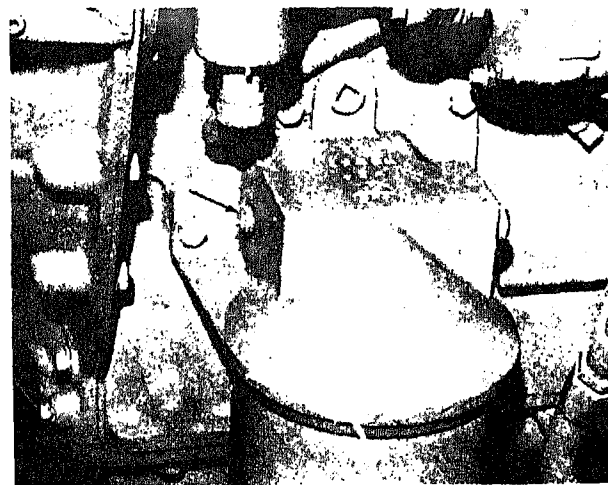

Fig. 14-2-2. Lubricating system priming point with paper element filter N214
- b. When engine with "paper element" full-flow lubricating oil filter is used, priming point is as indicated in Fig. 14-2-2.